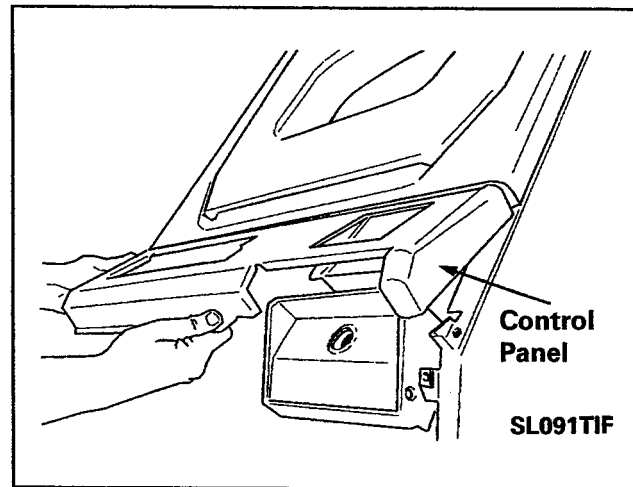

Figure 2-7
4. Lift control panel away from the dryer (*Figure 2-7*).